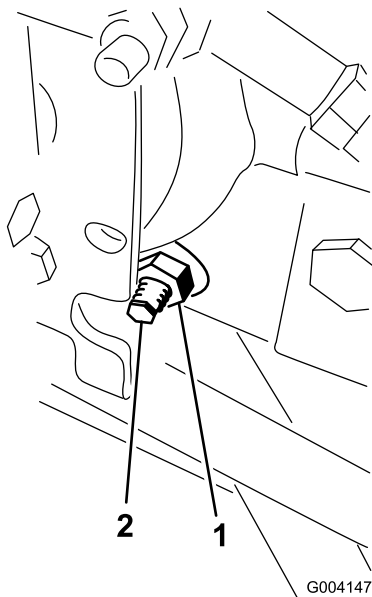

Figure 43
3. On the right side of the hydrostat, loosen the locknut on the traction adjustment cam (Figure 43).